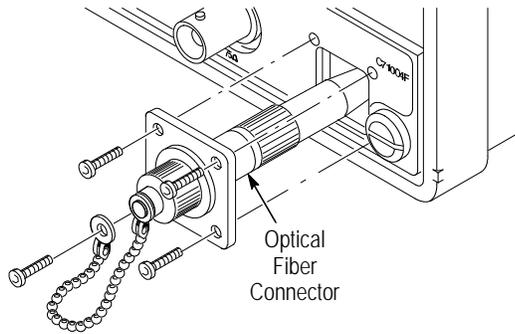

Figure H 1: Removing the Optical Bulkhead Connector
2. Remove the four screws that attach the bulkhead connector to the front panel (see Figure H 1).